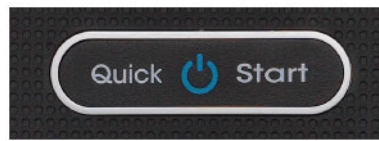

Fig.12 Quick Start Button on the Console
- Press Quick Start Button on the console (Fig.12) when the display is at Home Screen.